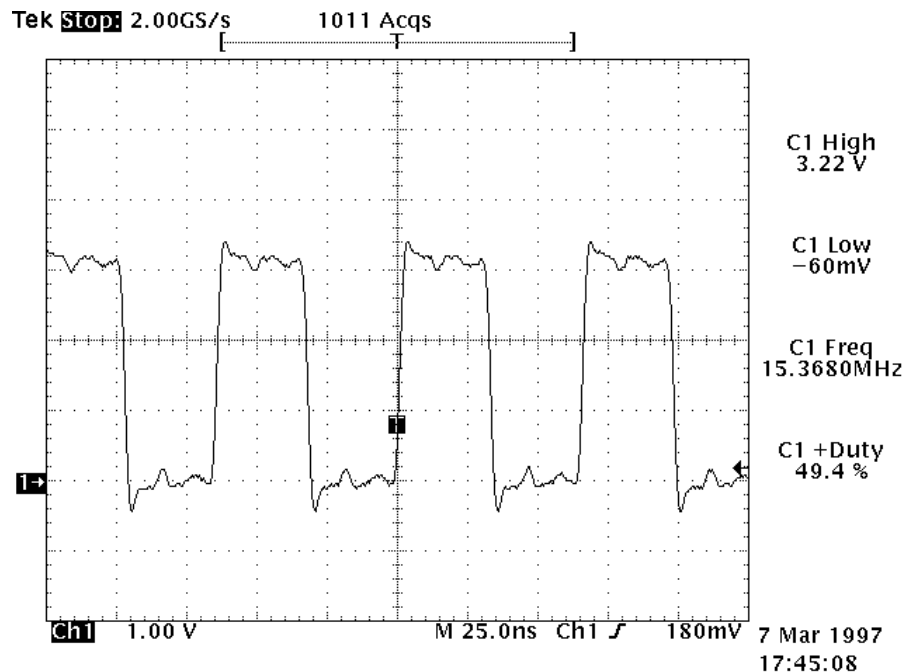

Figure 4
1.2 Check CDRFI(N700) pin 63. See Figure 4. Is there a 15.36MHz clock signal present?